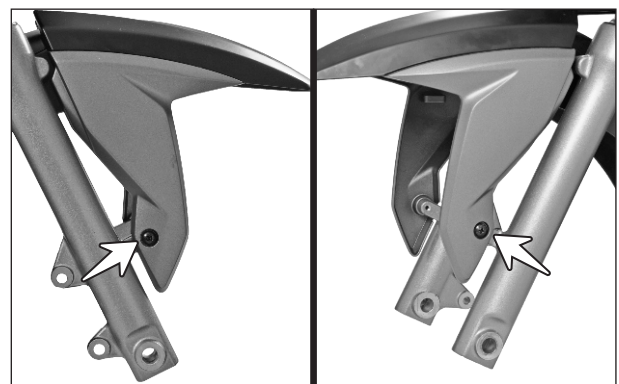

Fig. 6.46
- Remove the CRR pan head screws (M6x16 - 2 nos.) from the fender front L & R. (Fig. 6.46)